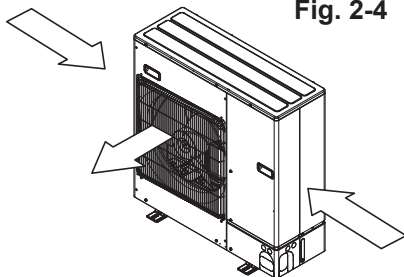

Fig. 2-5
- ③ Position the unit so that the air outlet blows perpendicularly to the seasonal wind direction, if possible. (Fig. 2-5)